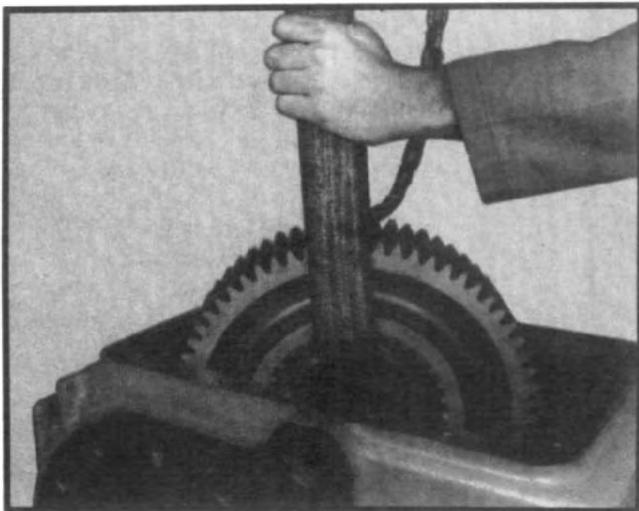

Fig. 59
2.26 Lift underdrive gear out of the case. (See fig. 59.)